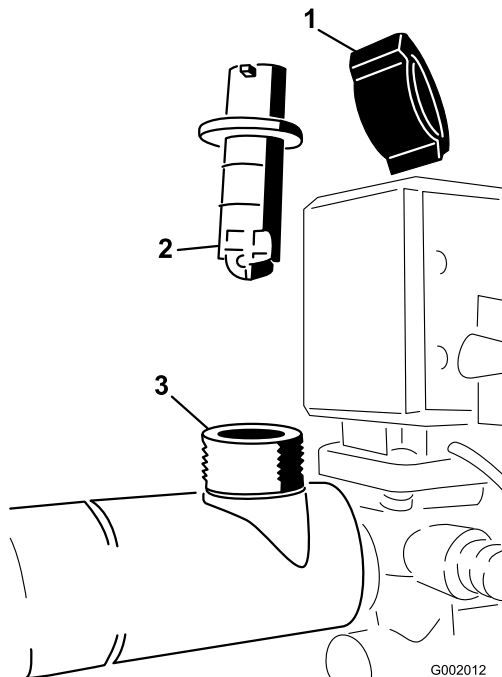

Figure 68
2. Remove the retaining cap from the flowmeter body (Figure 68).